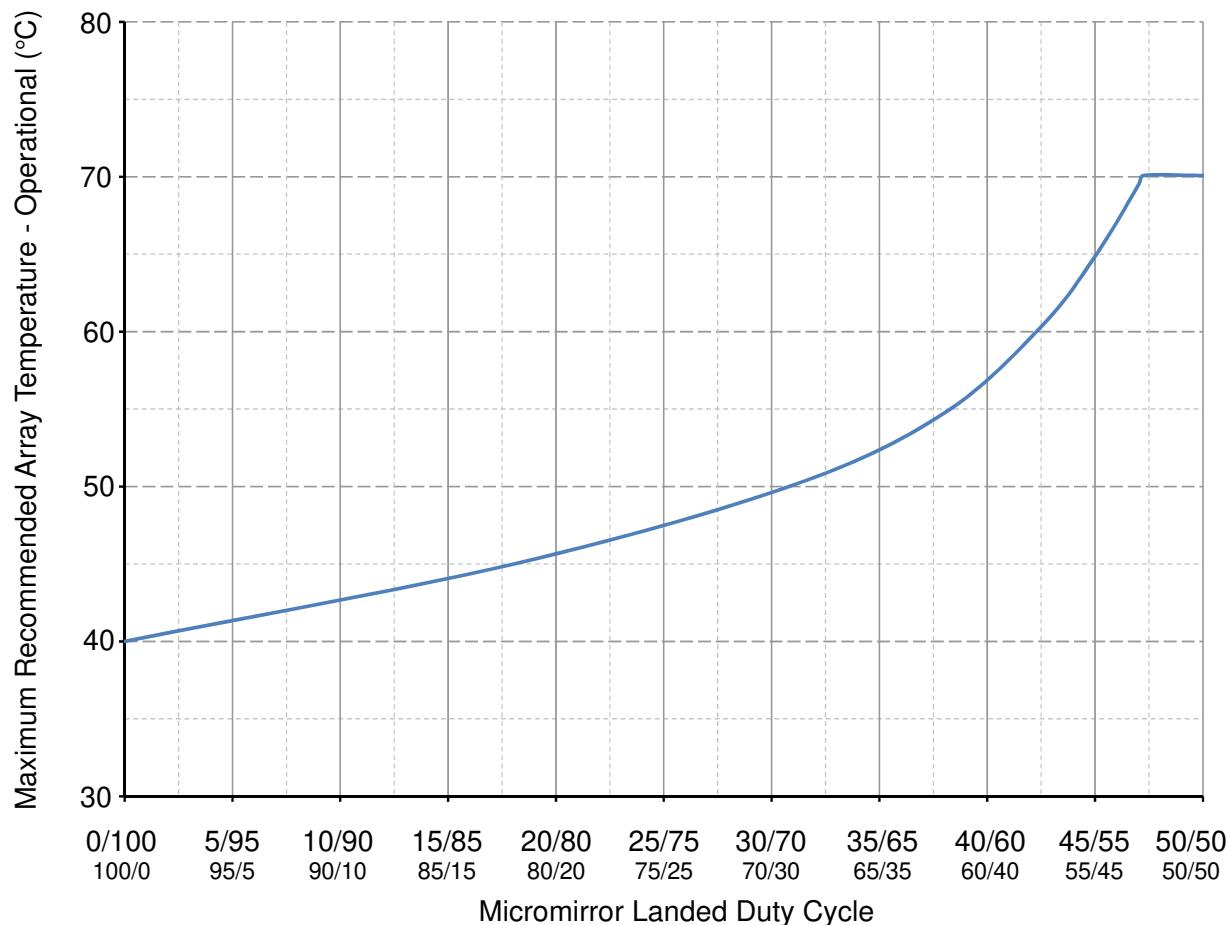

图 6-1. Maximum Recommended DMD Temperature—Derating Curve
- (11) Long-term is defined as the average over the usable life.
- (12) Per 图 6-1, the maximum operational array temperature should be derated based on the micromirror landed duty cycle that the DMD experiences in the end application. See 节 7.5 for a definition of micromirror landed duty cycle.
- (13) Array temperatures beyond those specified as long-term are recommended for short-term conditions only (for example, power-up). Short-term is defined as cumulative time over the usable life of the device and is less than 500 hours.